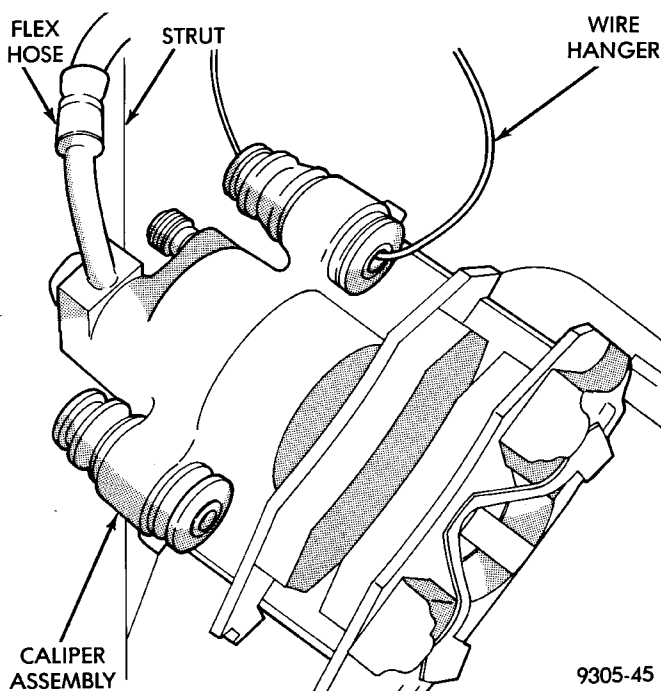

Fig. 70 Storing Caliper
(5) Support caliper assembly firmly from rear strut to prevent weight of caliper from damaging the flexible brake hose (Fig. 70).